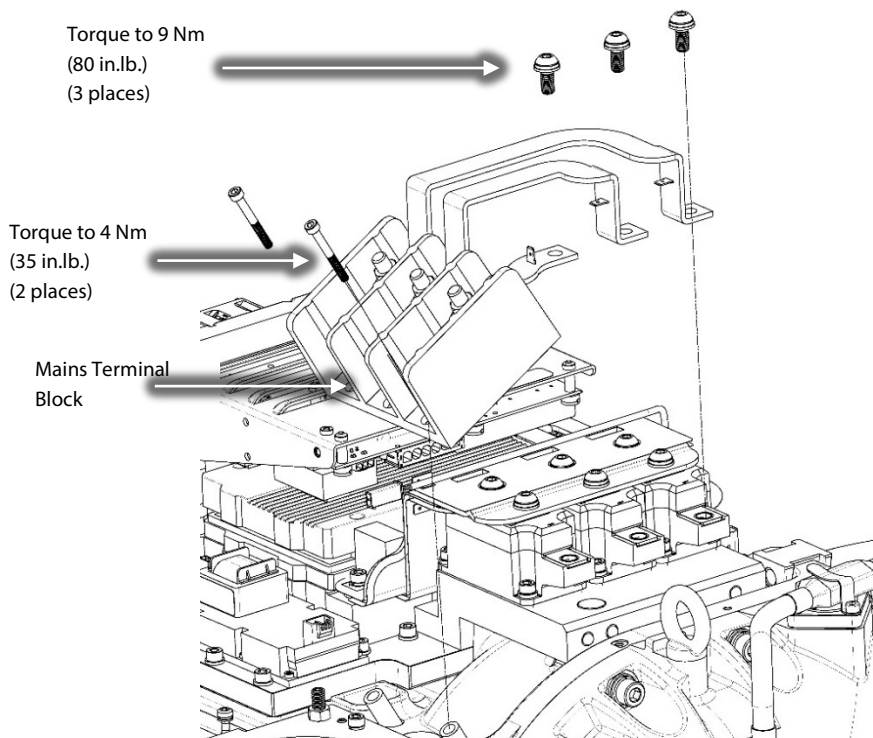

Figure 8 – AC Mains Input Terminals and Bus Bar Removal
16. Remove the AC mains input terminals and bus bars. Refer to Figure 8 (AC Mains Input Terminals and Bus Bar Removal).